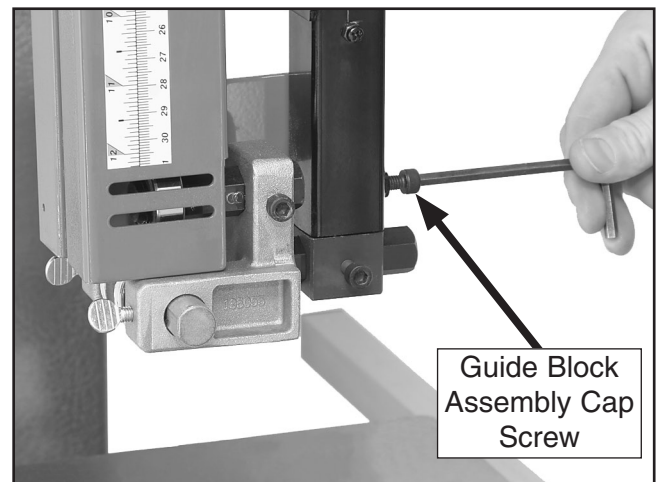

Figure 2. Loosening blade guide assembly.
3. Using a 5mm hex wrench, loosen the guide block assembly cap screw (Figure 2), hold the assembly, and remove it from the bandsaw.